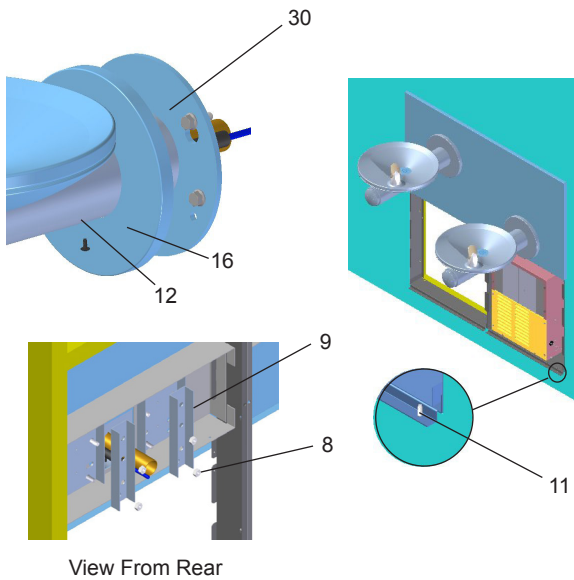
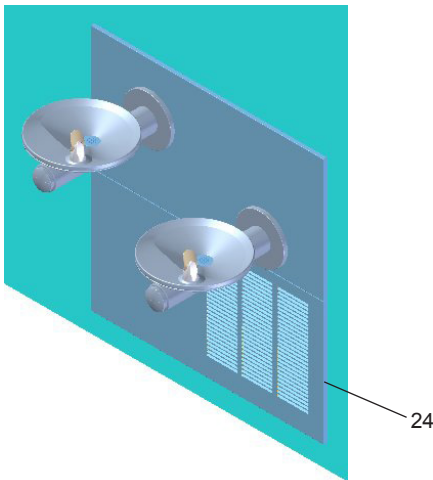

Figure 6 - Fountain Installation
Figure 7 - Lower Panel Installation
6. **Install** the fountain. Remove the screw (Item 12) from cover plate and slide cover plate (Item 16) toward basin. Mount the fountain to the upper panel and frame with (4) 5/16" x 1" (25mm) bolts (Item 27), brackets (Item 9) and nuts (Item 8) provided. **Brackets (Item 9) must be installed as shown to properly support fountains.** (See Figure 6)
12. **Mount lower panel.** Loosen the three (3) #10-24 x 5/8" (16mm) screws (Item 11 - Figure 6) at frame bottom lip. Slide upper tongue of lower panel under lower edge of already installed upper panel. Tighten previously loosened screws securely. (See Figure 7)